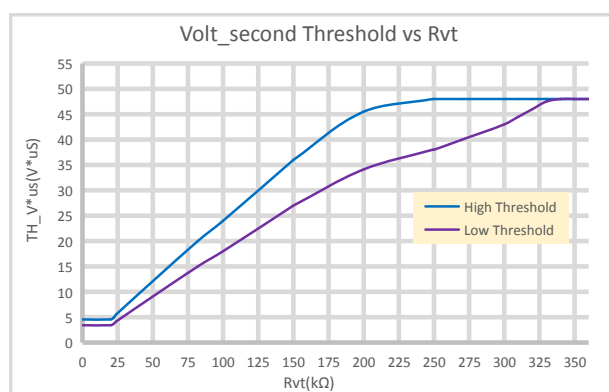
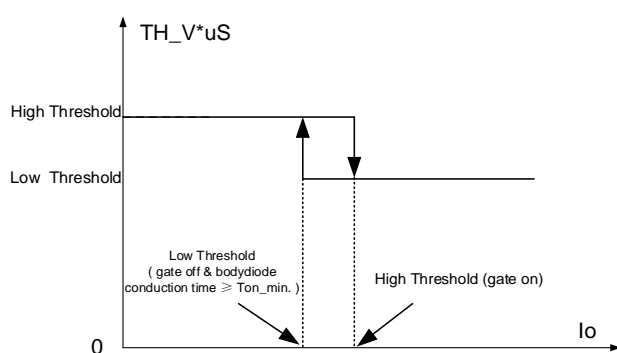

Fig. 2 Volt-second value vs. VT resistance
Fig. 3 Volt-second value with hysteresis
2) Volt-second of SW: in DCM and QR operation, there are parasitic oscillations. In some applications, the drain resonant voltage may fall below the SR turn on threshold, especially for the first couple rings. SR could be falsely turned on, which may cause shoot through issue and result in high power loss. The volt-second value of SW pin can be used to distinguish the parasitic ring from normal primary side switch on. The threshold can be set by the resistance at VT pin. The curve is shown in Fig. 2.
In application, as the output load(I_o) of converter increases, the volt-second value($S1$) of SW pin also increases. When the volt-second value($S1$) of SW pin is greater than the high threshold and gate turns on, the high threshold becomes to low threshold. As the output load decreasing, when the gate turns off and the MOSFET bodydiode conduction time is no shorter than $T_{on_min.}$, the low threshold becomes to the high threshold. When the R_{vt} is more than $250k\Omega$, the high threshold is fixed and the low threshold increases with the increasing of R_{vt} . The low threshold is fixed and equal to the high threshold when the R_{vt} is more than $330k\Omega$. The voltage-second hysteresis is shown in Fig. 2 and Fig. 3.